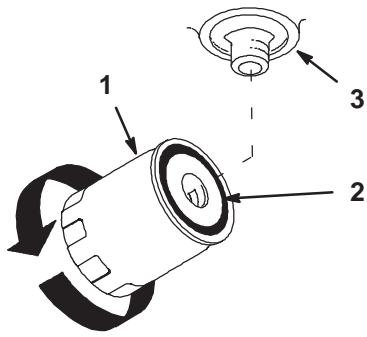

Figure 54
- Apply a thin coat hydro fluid to the rubber gasket on the replacement filter (Fig. 54).
- Fill the hydraulic tank with hydraulic fluid until the fluid overflows the filter and then turn the oil filter clockwise until the rubber gasket contacts the filter adapter, then tighten the filter an additional 1/2 turn (Fig. 54).